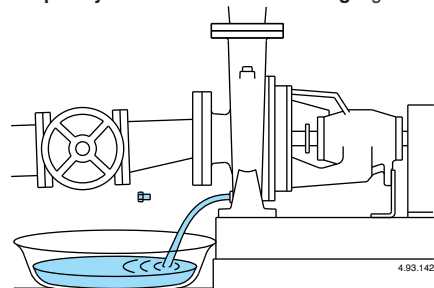

Fig. 9 Draining.
**When the pump remains inactive it must be emptied completely if there is a risk of freezing Fig. 9.**